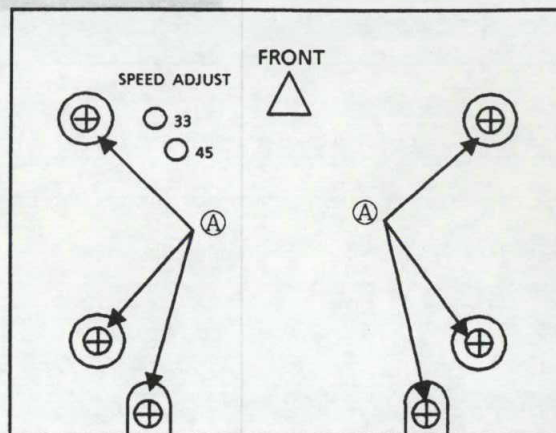

Fig.1 BOTTOM VIEW
■ Motor Speed adjustment (Fig. 1)